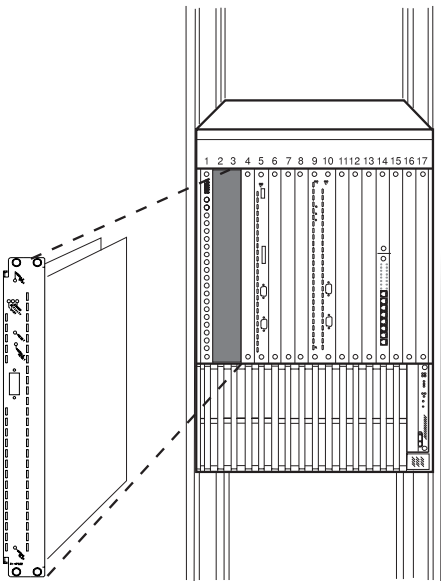
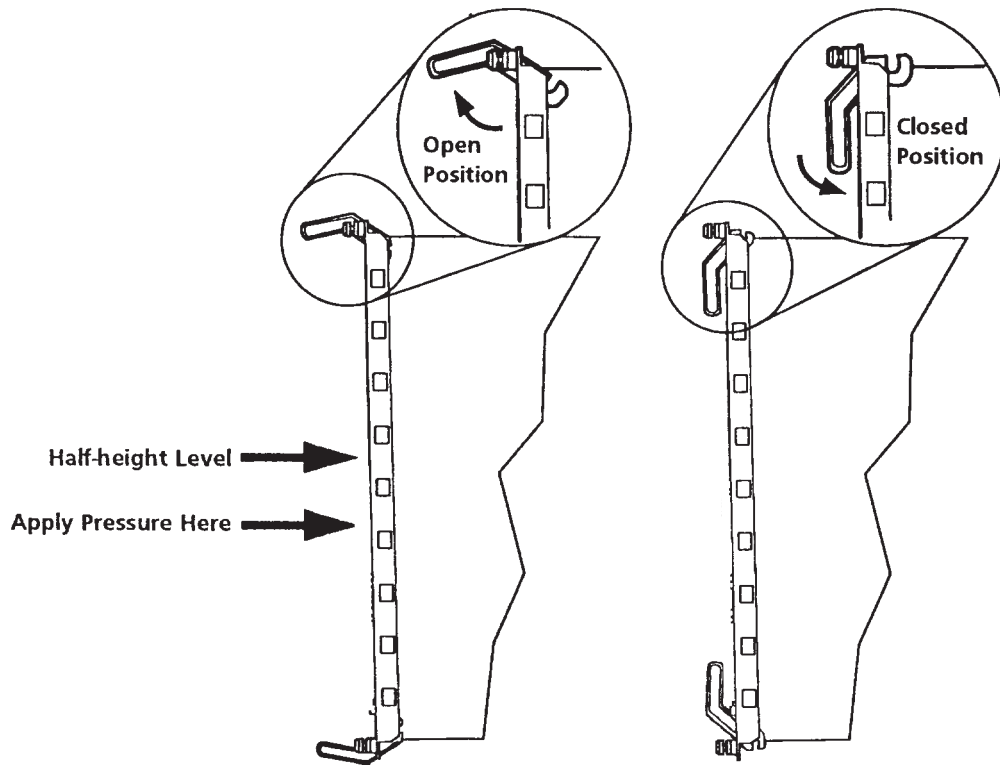

Figure 4. Installing the Module in an 8260 Hub
Figure 5. Module Ejectors
- 3 Insert the 622 Mbps module into the two selected slots as shown in Figure 4, matching the top and bottom board guides as you slide the module cleanly into place (by pressing evenly on the top and bottom of the faceplate). Do not attempt to push the module all the way into the hub until you have verified that both module ejectors are OPEN (see Figure 5 on page 23.)